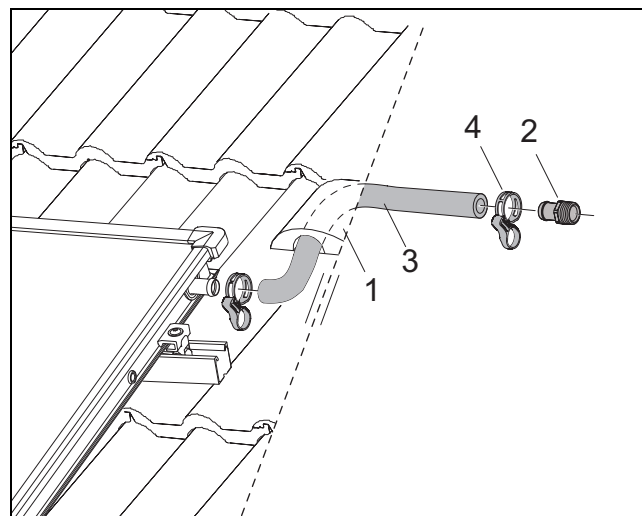

Fig. 48 Assemble the flow pipework (without purging device on the rooftop)
- Connect the solar hose (1000 mm, Fig. 48, [3]) to the collector array flow connection and secure with hose clip (Fig. 48, [4]).
- Fit the end of the hose into the solar hose with the threaded locking ring (Fig. 48, [2]) as far as it can go and secure with hose clip.
- Connect the collector pipe to the end of hose R $\frac{3}{4}$ with threaded locking ring (18 mm) (Fig. 48, [2]). Follow the same procedure for the return connection.